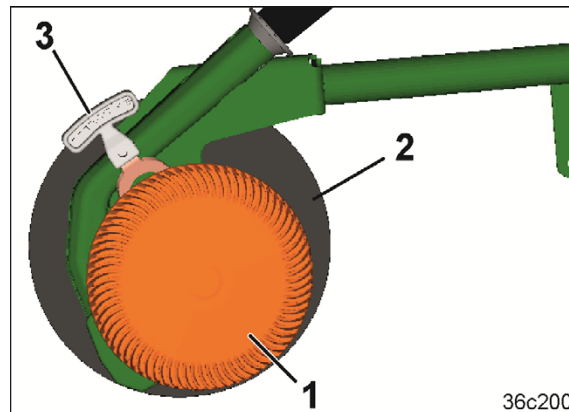

Fig. 55
The RoTeC Control coulters (Fig. 55) is used for the placement of seed on ploughed or mulched soil, even with larger quantities of straw and plant residues.
The shallow seeding disc (Fig. 55/1) and the cleaning disc (see below) are used for
- cleaning the rear side of the steel disc (Fig. 55/2).
For limiting the seed placement depth, the coulters discs can be adjusted in 3 positions. The handle (Fig. 55/3) is used for actuation.
The shallow seeding disc (Fig. 55/1) enables shallow seeding even on very light soils with increased coulters pressure.